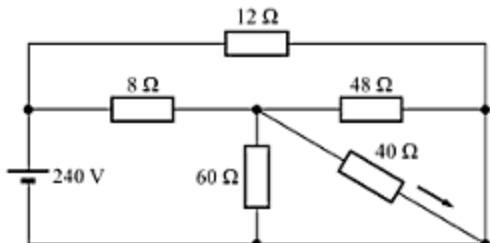

Fig. A-110
- A-77. Find the current  $I$  in the circuit of Fig. A-110.